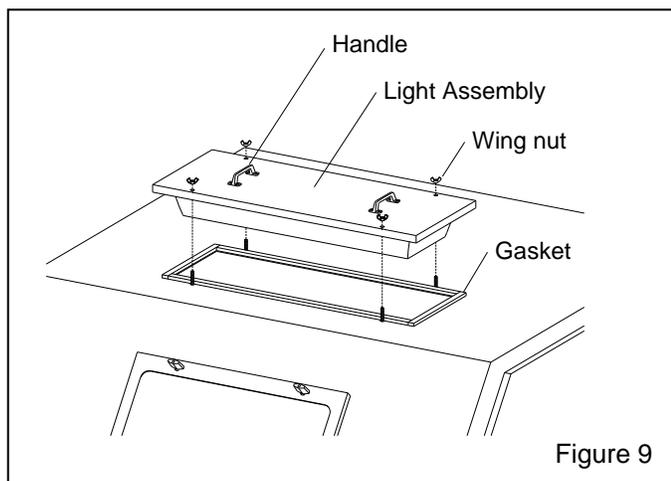

Figure 9
7.6.2.1 Remove the four holding wing nuts and lift the fixture off the cabinet, as shown in Figure 9.
7.6.2.3 Lay a section of strip gasket next to the opening, and cut to length, allowing 3/4" overlap on each end. Peel a short section of adhesive backing and adhere the strip gasket to the top edge of the light opening, as shown in Figure 9. Press the gasket to bond. Repeat the process for each side, compressing the ends to seal.